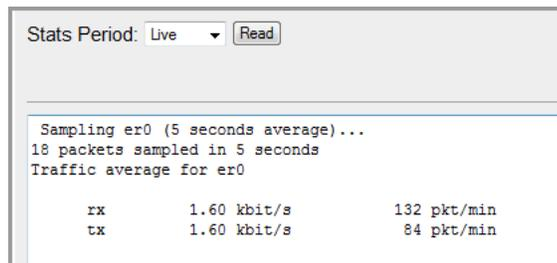

Figure 97 Live Statistics
- **Live**—This option displays the average transmit and receive data through put in kbps and the number of data packets seen on the radio interface (er0), displayed in packet per minute. See Figure 97.